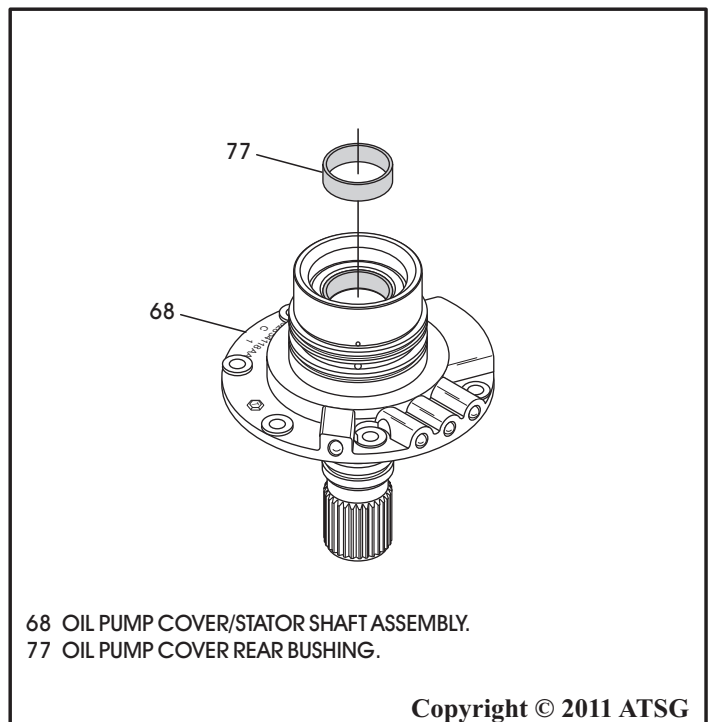

Figure 106
13. Replace the bushing in oil pump cover/stator assembly, as shown in Figure 106, using the proper bushing driver.